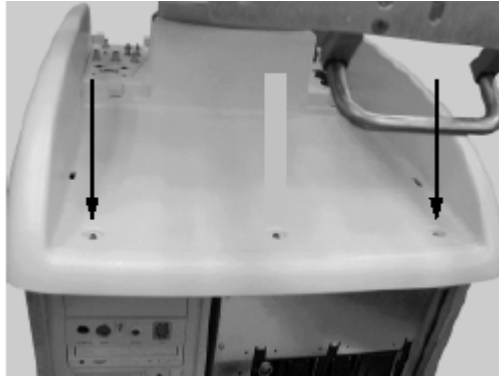

Figure 8-118 Top Cover Screws
- 8.) Remove the *right* and *left* screws located at the front of the lower section top cover, as shown in Figure 8-118 "Top Cover Screws" on page 8-136.